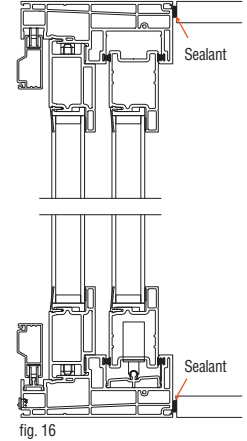

fig. 16
- a. If there is existing trim or extension jambs and the door is going to fit against those, apply a bead of sealant at those surfaces to set the door frame into. (fig. 16)